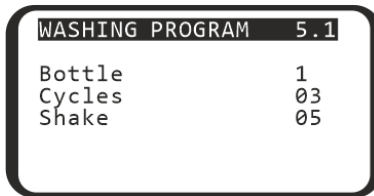
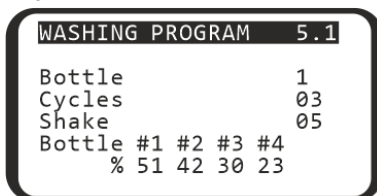

Figure 13. Running program
Figure 14. Running program with 4CHW Logger attached
5.9.1 During operation, display (figure 13) shows the program number (5.1), number of the bottle in use (1), the current cycle (03) and the current timed action (Shake .. 05).
5.9.2 If **4 CHW Logger**, the 4-channel washing solution weight logger is connected to the unit, then in addition to values on figure 13, display shows percentage of the remaining volume of liquid in the bottles (figure 14). For the waste bottle #4, percentage values will be increasing.